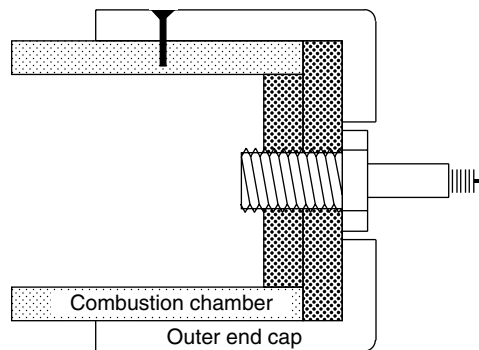
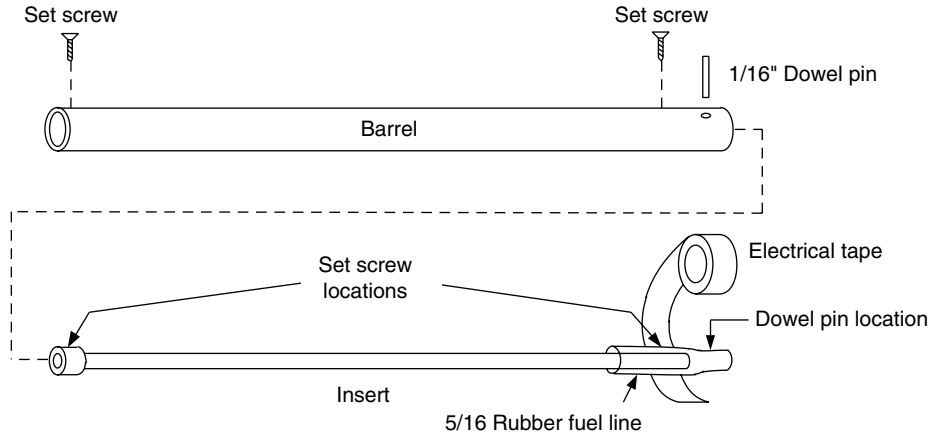
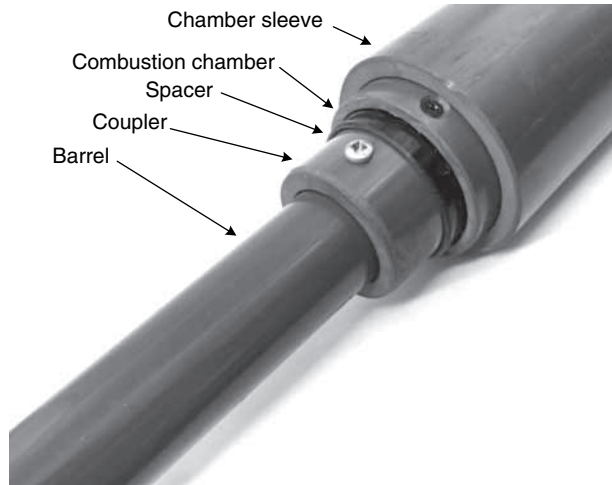

Figure 18-8 Hole through end cap sides.
Figure 18-9 Barrel assembly.
Figure 18-11 Detail of chamber stepping down to barrel.
Now coat the outside tail end of the combustion chamber and the inside of the outer end cap with PVC cement, slide them together and hold until dry. Drill and tap just one hole, this time through the side of the outer end cap, but do not penetrate the combustion chamber (set or mark your drill to not penetrate into the combustion chamber) (Fig. 18-8).
At the other end of the pistol, the barrel is made from a seamless aluminum tube inserted into 1-inch outside diameter (OD) PVC pipe (Fig. 18-9). The 14-inch aluminum tube has a 0.4375-inch OD with a 0.049-inch wall thickness and should be available in hardware and automotive stores.
1. Insert the barrel into the coupler, flush to the end (remember the PVC cement); then tap a set screw into the Barrel about $\frac{1}{4}$ inch from the edge of the coupler (Fig. 18-11).
3. Push the spacer into the combustion chamber (first coat it with PVC cement), and tap another set screw (see Fig. 18-11).
Screws can be further used to mechanically prevent slipping, but care should be taken to avoid penetrating to the combustion area (Fig. 18-11).
1-inch length × 1/16-inch diameter metal dowel pin, filed to fit flush in barrel (Fig. 18-9)
4	Flathead “set” screw, ¼-inch; file 1 to length to not penetrate combustion chamber (Fig. 18-8), 2 through insert within barrel (Fig. 18-9), and 1 through combustion chamber, spacer, and coupler (Fig. 18-11)